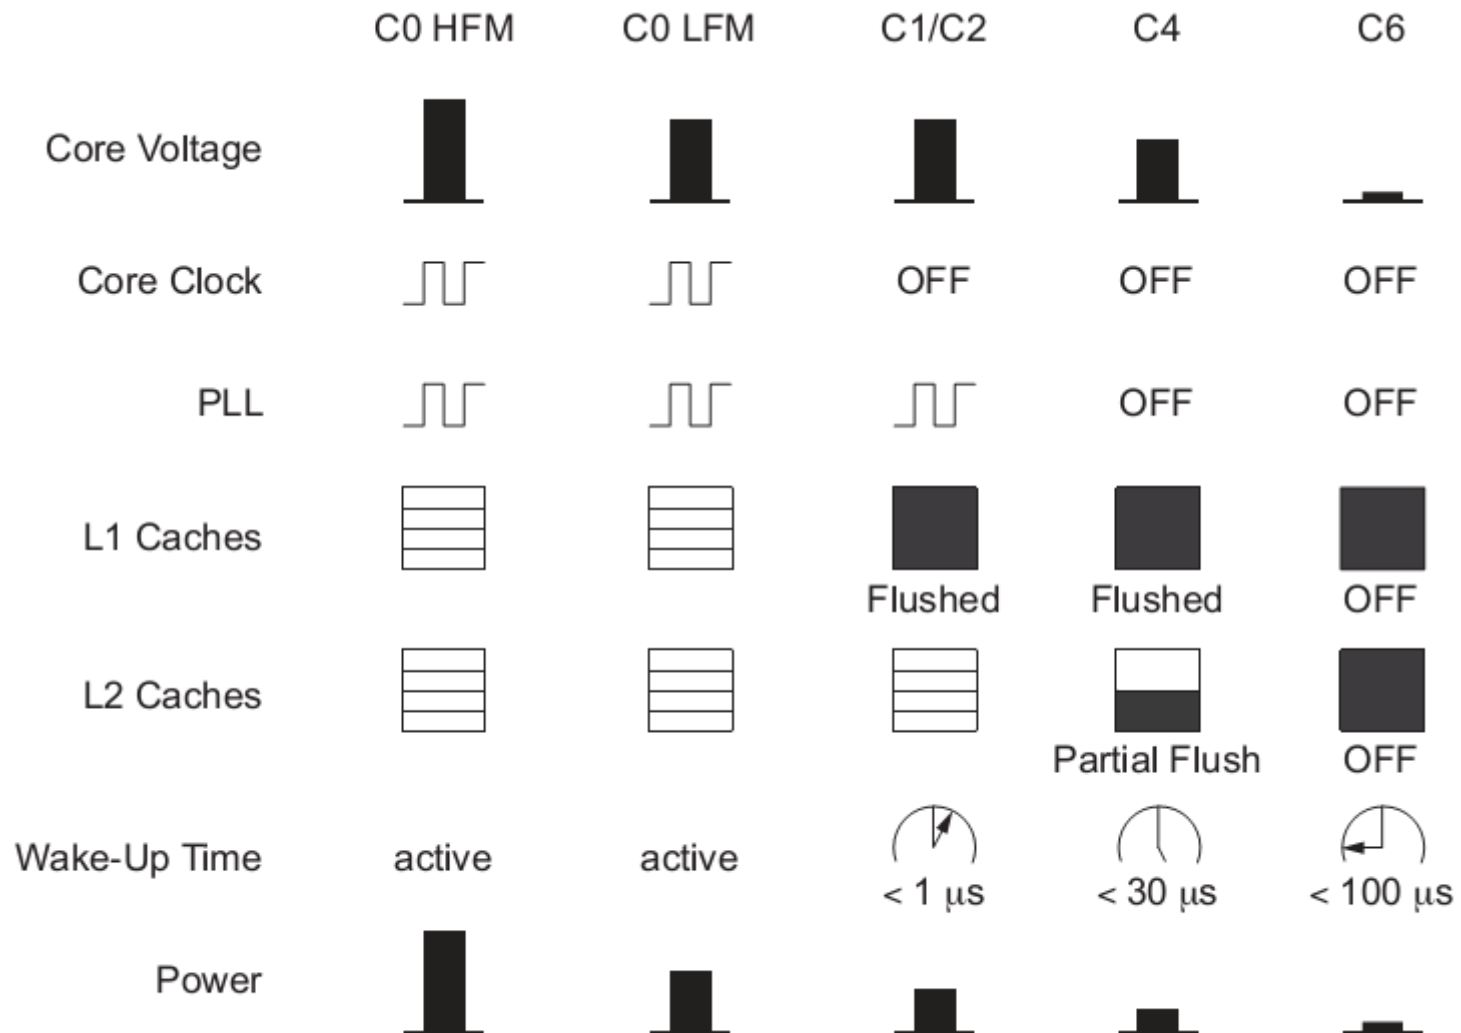

FIGURE 5.30 Atom power management modes (© 2009 IEEE.)
- The power management modes are shown in Figure 5.30.